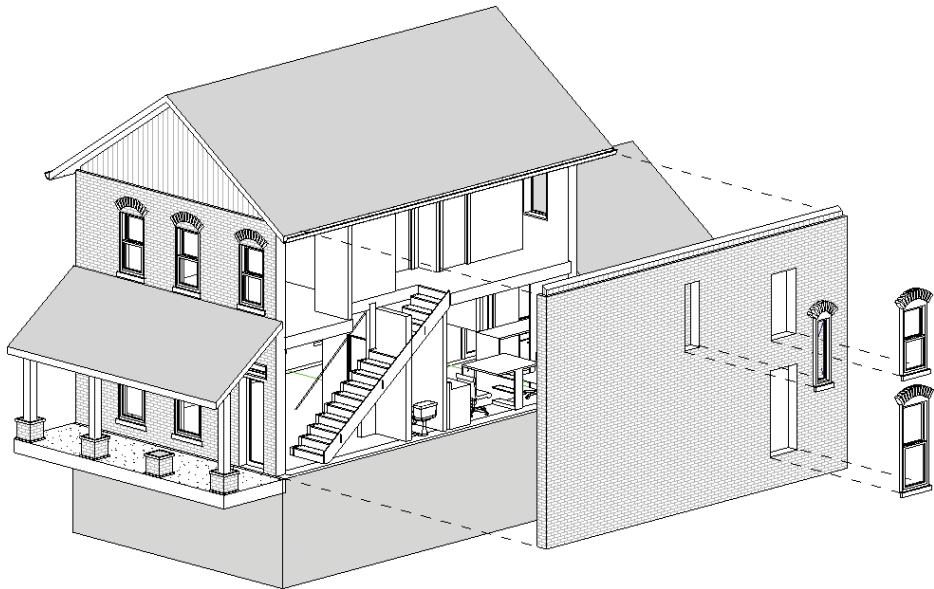

FIGURE 9.14 Finished exploded view
4. Select one of the windows, and from the ribbon choose the Path tool. Hover your mouse over one of the corners of your displaced window or wall. Click to place a dashed line path back to where the element originated. Now you have an exploded view (Figure 9.14).